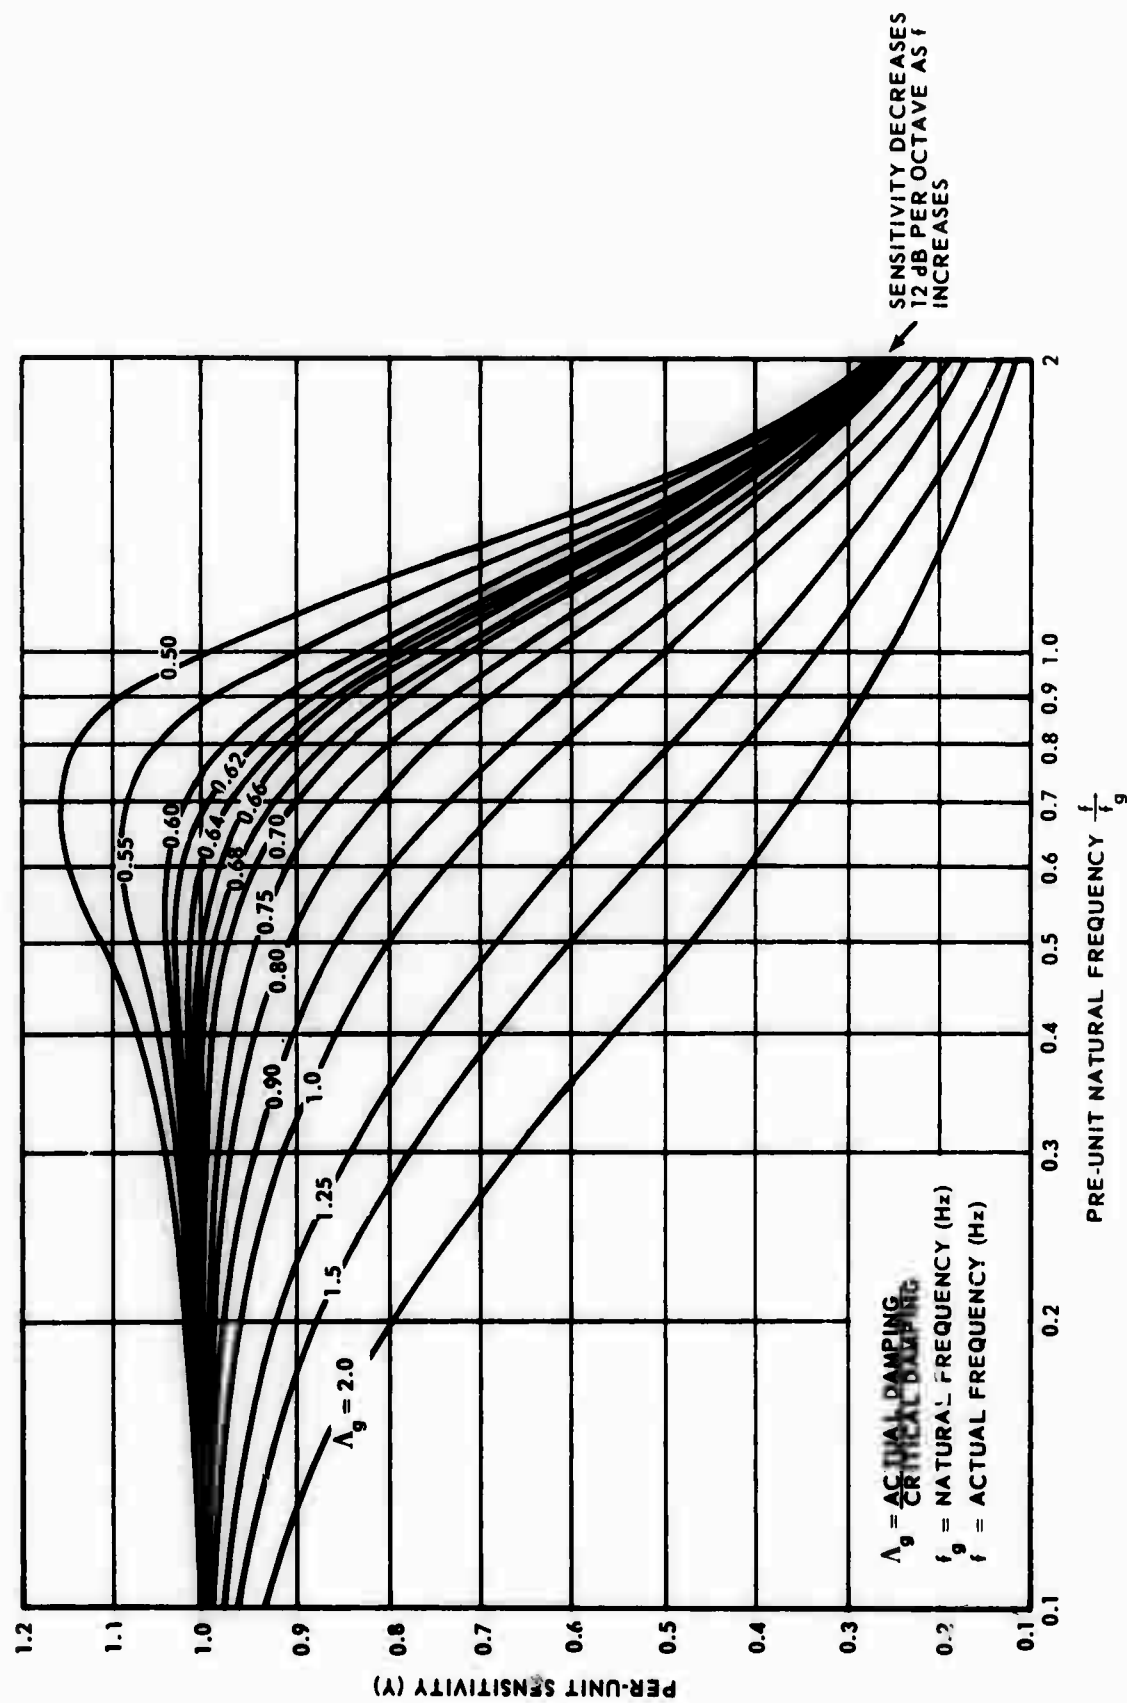

Figure 2. Galvanometer sensitivity vs per-unit natural frequency for several values of damping
1.2.3 The ESD GL261 galvanometer and a variety of plug-in filter components are offered by the Geotech Division of Teledyne Industries, for use in the amplifier. The information contained in this manual applies to amplifiers equipped with the GL261 galvanometer and a bandpass filter with half-power points at 0.001 Hz and 0.04 Hz. Supplementary information is included when special galvanometer-filter combinations are shipped. Figure 2 shows the galvanometer frequency response for various values of damping.